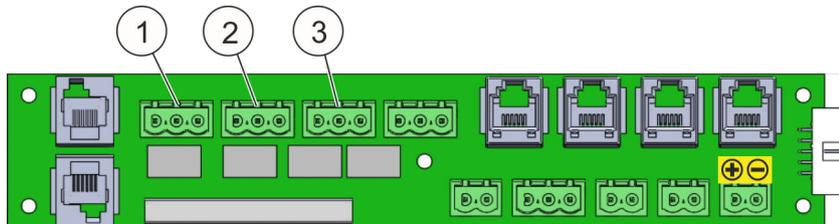

Fig. 17: Potential-free contacts
- Use the floating contacts (Fig. 17/1 to 3) for the device shutdown that is to be realized by the operator.